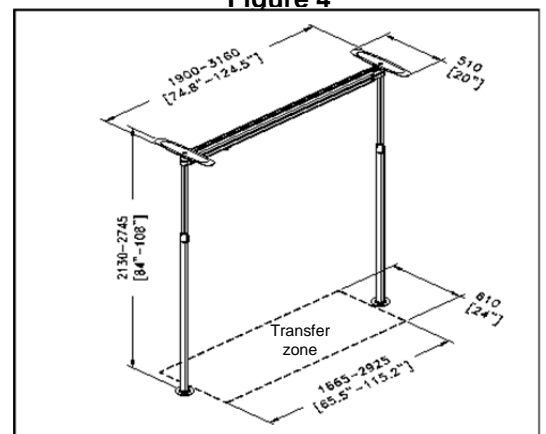

Figure 5
- ◆ Transfers should only take place between the Easytrack System's posts (see Figure 5).